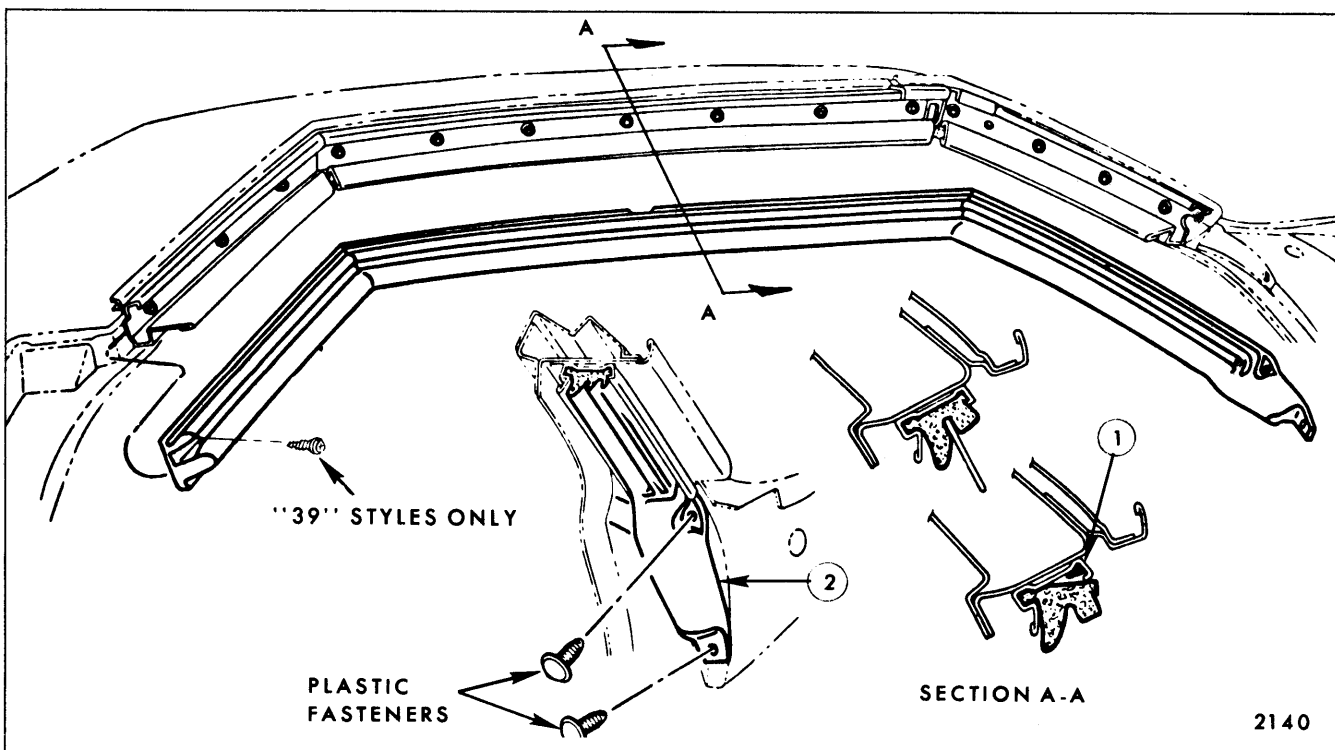

Fig. 6-8—Side Roof Rail Weatherstrip - All Hardtop Styles Except "B-C47 & E" Body Styles
1. Remove plastic fasteners at front and screw at rear of side roof rail weatherstrip (Figs. 6-8, 6-9, 6-10 and 6-11).
5. Apply a bead of black weatherstrip adhesive to outboard flange of weatherstrip retainer ("1", Figs. 6-8 and 6-9). Extend adhesive down front body hinge pillar to seal lower front end of weatherstrip that is retained with plastic fasteners.
NOTE: For Steps 5 & 6, Figures 6-8 and 6-9 are to be considered as typical for all hardtop styles.
6. Position front end of weatherstrip to body and install plastic fasteners. Then, using a flat-bladed tool, begin engaging weatherstrip with retainer as shown in Section "A-A", Figures 6-8 and 6-9. Engage inboard lip of weatherstrip first, then, outboard lip.